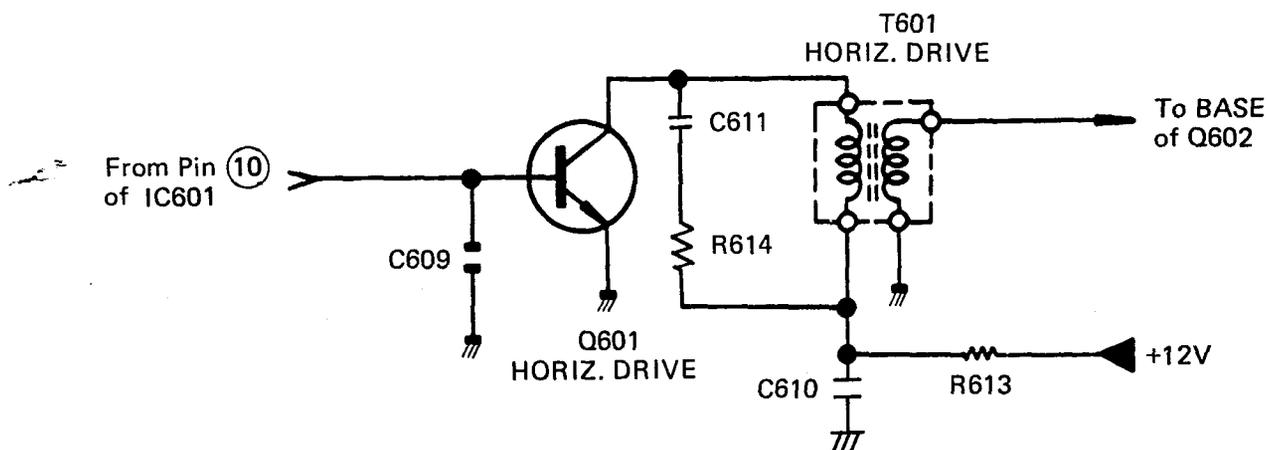
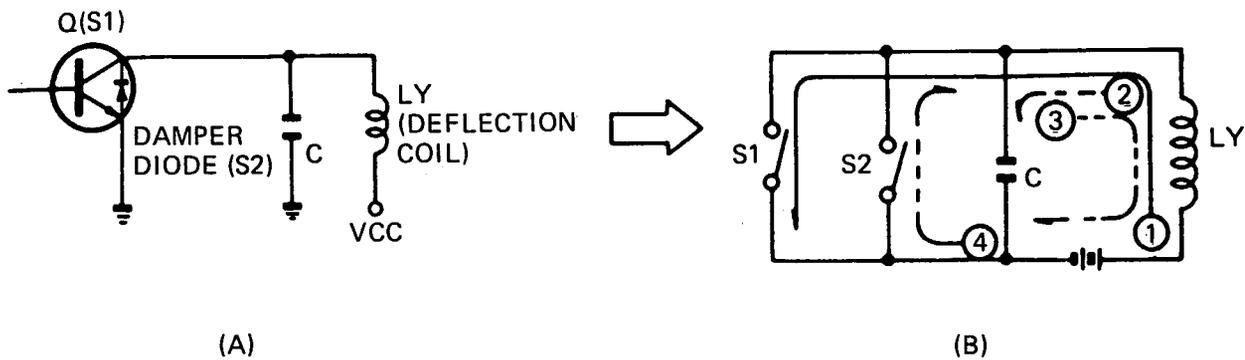

Figure 3. Horizontal Drive Circuit
Figure 4. Equivalent Circuit of Horizontal Output Circuit
Horizontal drive voltage, developed at pin (10) of the deflection processor integrated circuit (IC601), is amplified through the horizontal drive stage (Q601) and coupled to the base of the horizontal output circuit via the horizontal drive transformer (T601). Refer to Fig. 3. The horizontal output circuit generates the horizontal scan and high voltage to be applied to the picture tube. The function of the horizontal output stage (Q602) is to serve as a switch for the horizontal output circuit. Refer to Fig. 4.